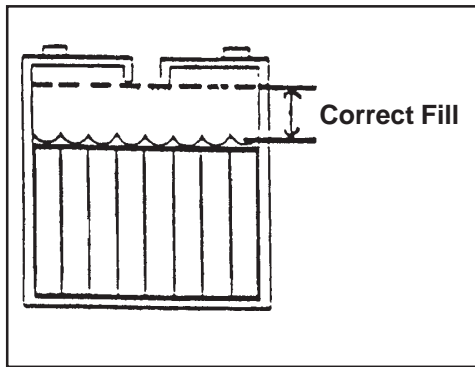

Figure 5
1. Keep the electrolyte at the correct level. The correct level is between 1/4" (1/2 cm) below the bottom of the tube in each cell and above the tops of the plates. Check the level of the electrolyte each time you charge the batteries (see figure 5).